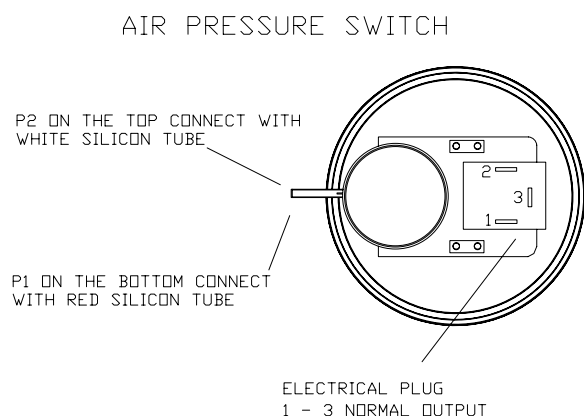

Fig. 52
## 7.17 TO REMOVE/REPLACE THE DIFFERENTIAL PRESSURE SWITCH (fig. 52).
- 7.17.5 Ensure tubes are connected correctly (Fig. 52) avoiding kinks.